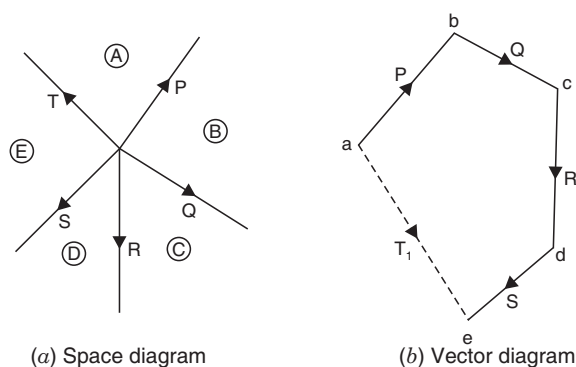

Fig. 2.2
11. Select a suitable scale draw the vector diagram (Fig. 2.2) by moving in one direction (*i.e.* clockwise or anticlockwise). Draw  $ab$  parallel to  $AB$  and cut it equal to force  $P$ ; draw  $bc$  parallel to  $BC$  and cut it equal to  $Q$ ; draw  $cd$  parallel to  $CD$  and cut it equal to force  $R$ ; draw  $de$  parallel to  $DE$  and cut it equal to force  $S$ . Vector  $ae$  will be the resultant force  $T_1$  taken in opposite direction and should be equal to force  $T$  which proves the law of polygon of forces. If  $ae$  is not equal to  $T$  then percentage error is found as follows.